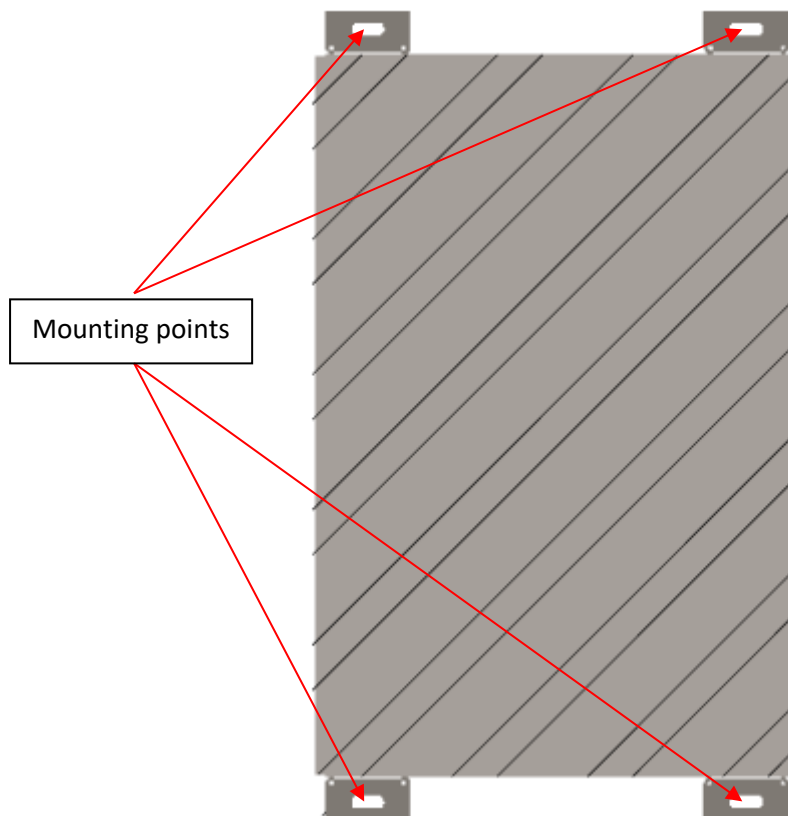

Figure 15 – Mounting points
1. Lift the battery module to its location using the mounting points specified in figure 15.